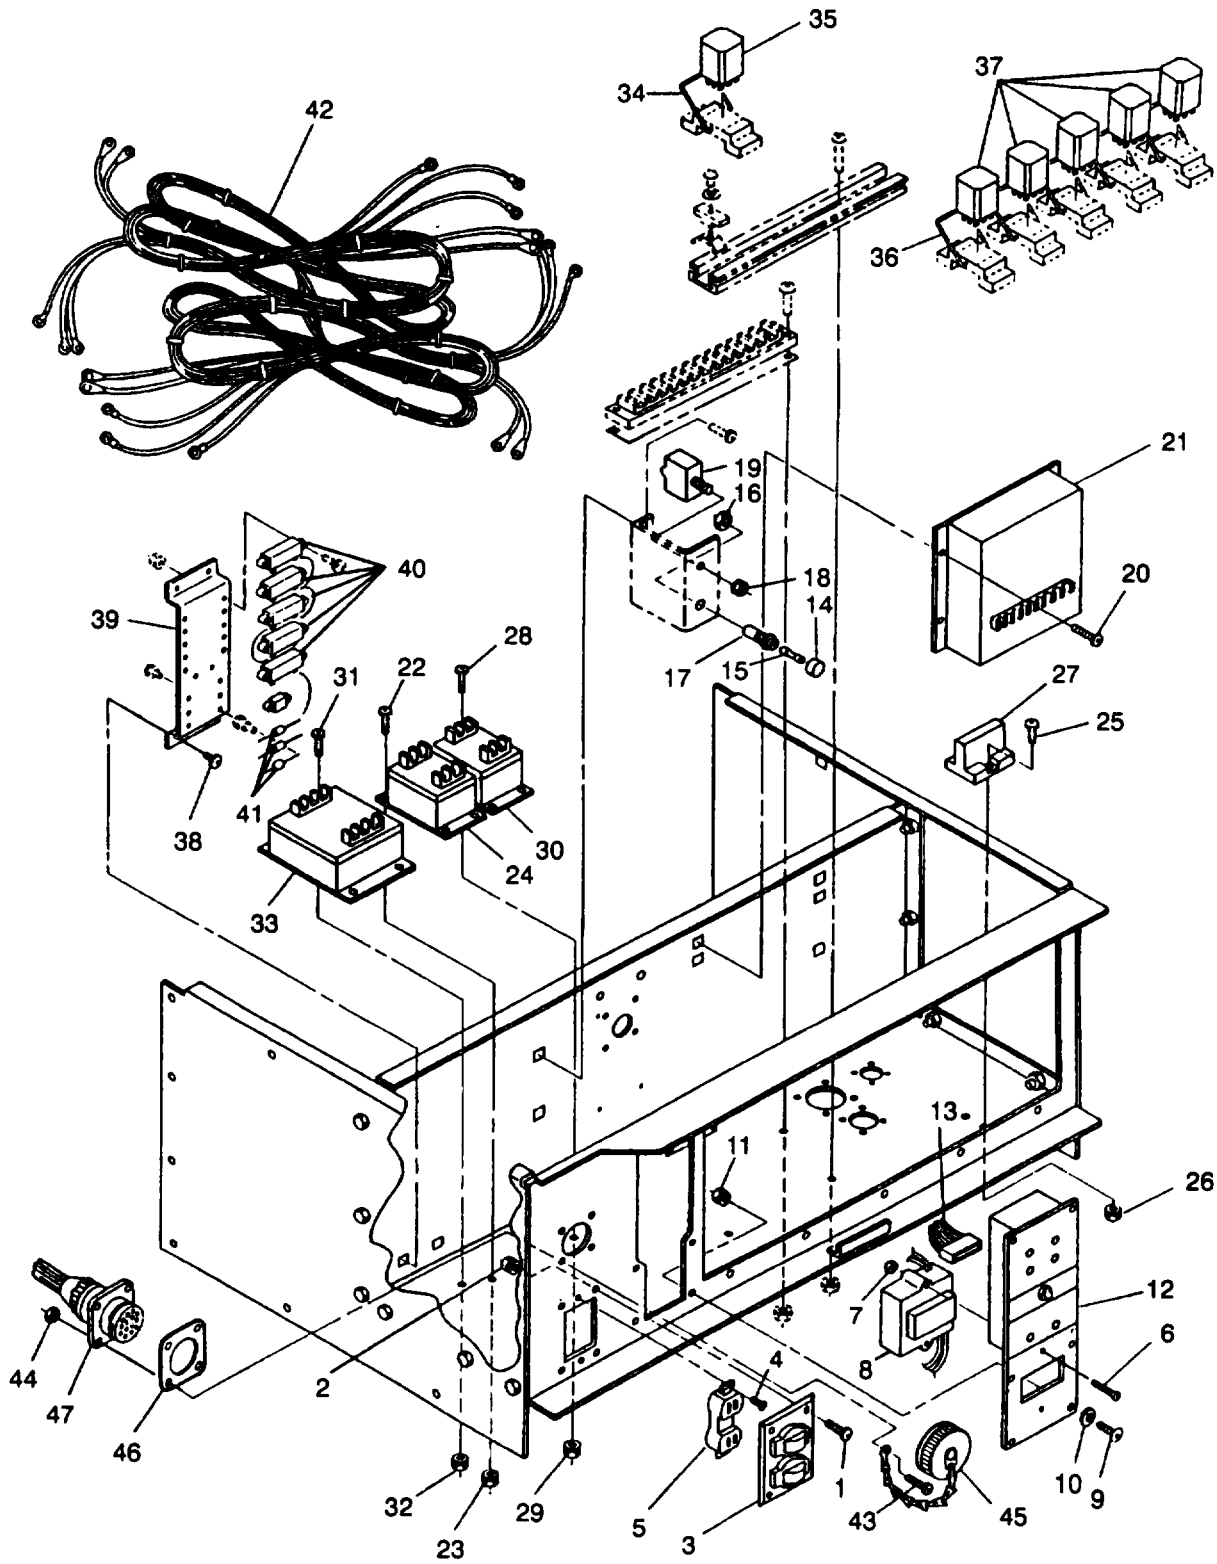

Figure 2-11. Control Box Components
- c. Tag and disconnect shunt (27, Figure 2-11) electrical leads.
- f. If no repair is needed, connect electrical leads to shunt (27) and remove tags.
- d. Tag and disconnect shunt (27, Figure 2-11) electrical leads.
- e. Open storage box access door to gain access to remove screws (25), nuts (26), and shunt (27).
- a. Install shunt (27, Figure 2-11) with screws (25) and nuts (26).
- d. Tag and disconnect overvoltage relay (30, Figure 2-11) electrical leads.
- e. Open load terminal board access door to gain access and remove screws (28), nuts (29), and overvoltage relay (30).
- a. Install overvoltage relay (30, Figure 2-11) with screws (28) and nuts (29).
- d. Tag and disconnect short circuit/overload relay (33, Figure 2-11) electrical leads.
- e. Open load terminal access door to gain access to nuts (32) and remove screws (31), nuts (32), and short circuit/overload relay (33).
- a. Install short circuit/overload relay (33, Figure 2-11) with screws (31) and nuts (32).
- c. Inspect crank disconnect switch (35, Figure 2-11) for cracks. Ensure that switch is seated properly.
- d. Release wire clip (34, Figure 2-11) and remove crank disconnect switch (35) by gently pulling straight up from socket.
- a. Install crank disconnect switch (35, Figure 2-11) and snap wire clip (34) over switch.
- d. Locate suspected defective relay (37, Figure 2-11). Release wire clip (36) and remove relay (37) by gently pulling up on relay.
- a. Install relay (37, Figure 2-11) and secure with wire clip (36).
- d. Tag and disconnect all resistor-diode assembly (39, Figure 2-11) electrical leads.
- e. Remove screws (38) and resistor-diode assembly (39).
Repair resistor-diode assembly (39, Figure 2-11) by replacing resistors (40) and diodes (41).
- a. Install resistor-diode assembly (39, Figure 2-11) with screws (38).
- c. Inspect control box harness (42, Figure 2-11) wiring for breaks, damaged insulation, and loose or damaged terminals.